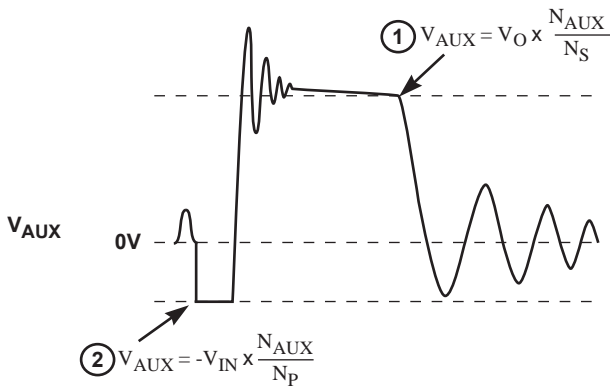

Figure 10.3: Auxiliary Voltage Waveforms
and reflects the output voltage as shown in Figure 10.3.
During constant current (CC) operation, the output voltage regulation is not guaranteed. The point 1 in Figure 10.3, which reflects output voltage is not regulated to  $V_{SENSE(NOM)}$  (i.e. 1.533V). For LED applications, where current regulation is critical, design needs to ensure the point 1 is well below  $V_{SENSE(NOM)}$  with some margin.
The CR1510 also incorporates constant voltage (CV) operation, where output voltage maintains constant by regulating the point 1 indicated in Figure 10.3 to  $V_{SENSE(NOM)}$  (1.533V typically). During constant voltage operation, the CR1510 may operate in pulse-width-modulation (PWM) mode or pulse-frequency-modulation (PFM) mode, depending on load conditions. In particular, the CR1510 allows the switching frequency to drop as low as 1.8kHz at PFM mode, which helps system stay regulated at very light load condition, thus achieving <30mW no-load power consumption and meanwhile improving active operating efficiency by using large pre-load resistor.
The secondary maximum output DC voltage is limited by the CR1510. When the  $V_{SENSE}$  signal exceeds the output OVP threshold at point 1 (as shown in Figure 10.3), the CR1510 shuts down.
LED short fault is detected via  $V_{SENSE}$  pin. When the point 1 in Figure 10.3 is below 115mV for several consecutive cycles, the CR1510 shuts down.